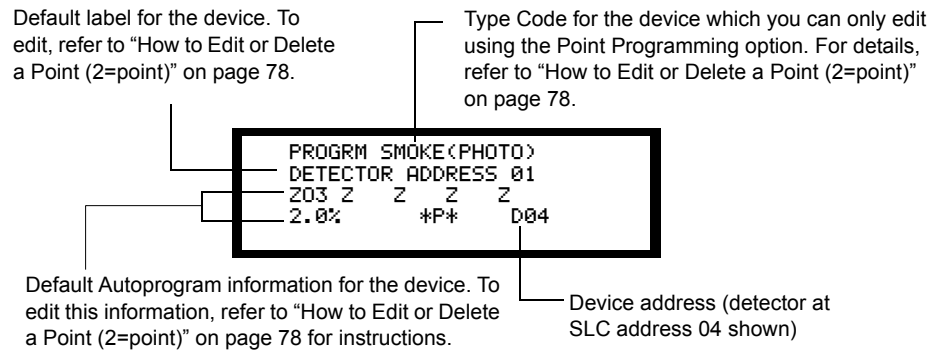

Figure 59 Sample New Device Screen
3. When finished identifying SLC devices, the control panel displays information for the new detector at SLC address 04 on the LCD display as shown in Figure 59.